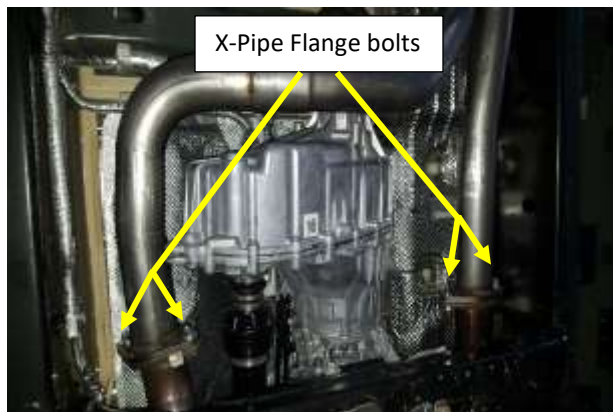

Figure 5
7. Remove the (x4) bolts from the flanges where the OEM X-pipe bolts to the catalytic converters. **Fig.5**